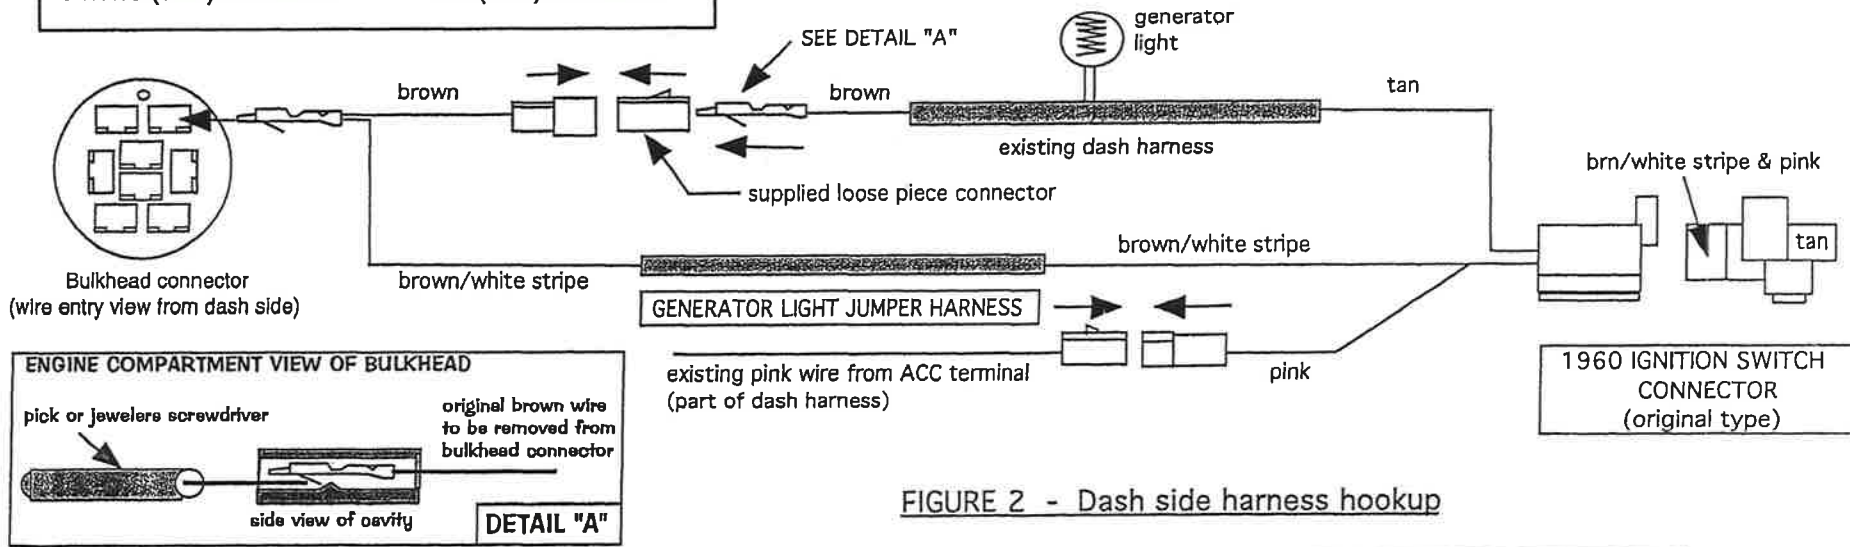

FIGURE 2 - Dash side harness hookup
3. Remove the brown wire for the generator light from the Dash Harness bulkhead connector (Figure 2 - Detail "A"). After removal, bend the locking tang on the terminal back (approximately a 30 degree angle). Install the loose piece connector supplied (Figure 2) onto the end of the brown wire from the generator light. Use caution when inserting the terminal into the connector, as it can be inserted in the wrong direction. Lightly tug on the brown wire to ensure that the terminal is properly locked into the connector. If the terminal pulls out of the connector, you either have the terminal in upside down or the locking tang is not bent out far enough.
4. Install the female terminal with the brown and brown with white stripe wires from the **GEN LIGHT JUMPER HARNESS** into the original cavity on the bulkhead connector (Figure 2) that you previously removed the brown wire from. Lightly tug on the wires to ensure that the terminal is properly seated into the bulkhead. If the terminal pulls out of the connector, you either have the terminal in upside down or the locking tang is not bent out far enough. Plug the brown wire from the Dash harness into the brown wire from the **GEN LIGHT JUMPER HARNESS**.